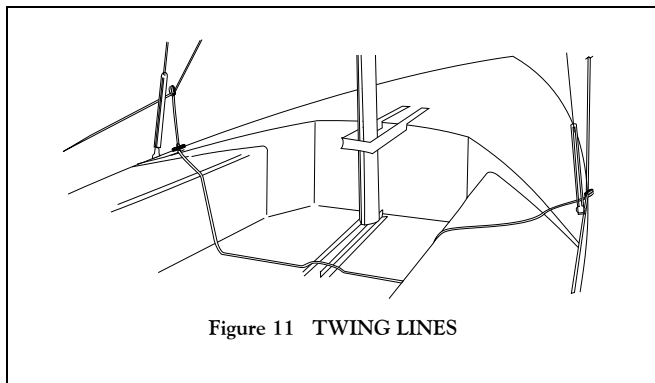

Figure 11 TWING LINES
**Twing lines** (see Figure 11), which most people find easier to use than reaching hooks. You'll need one or the other to lead the guy low around the shroud so the crew can use the trapeze without interference and so the pole won't "sky" on windy reaches. If you have reaching hooks, don't change unless you decide you like twing lines better. But if you're starting from scratch, these are as easy to install as reaching hooks. If you mount the twings forward of the shrouds, the crew can brace a wrist against, the shroud when holding the guy in trim (see also pages 25 and 30).